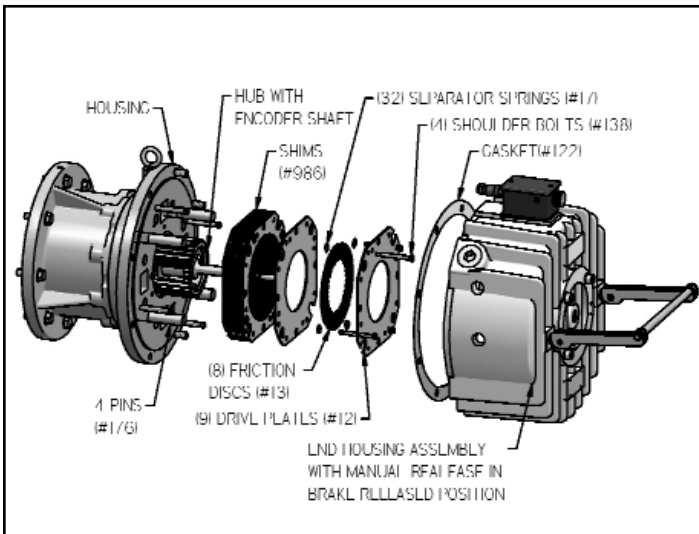

Figure 7.3 - Removing MSB12 Brake Stack
(See Figures 7.3 , 7.4 and 8.2)
2. Unscrew the (4) Shoulder Bolts (#138) from the Housing (#8), but do not pull them out of the Brake Stack. Pull the complete Brake Stack including the (4) Shoulder Bolts (#138) off the (4) Pins (#176) and the Hub (#2) Spline. (See Figure 7.3)